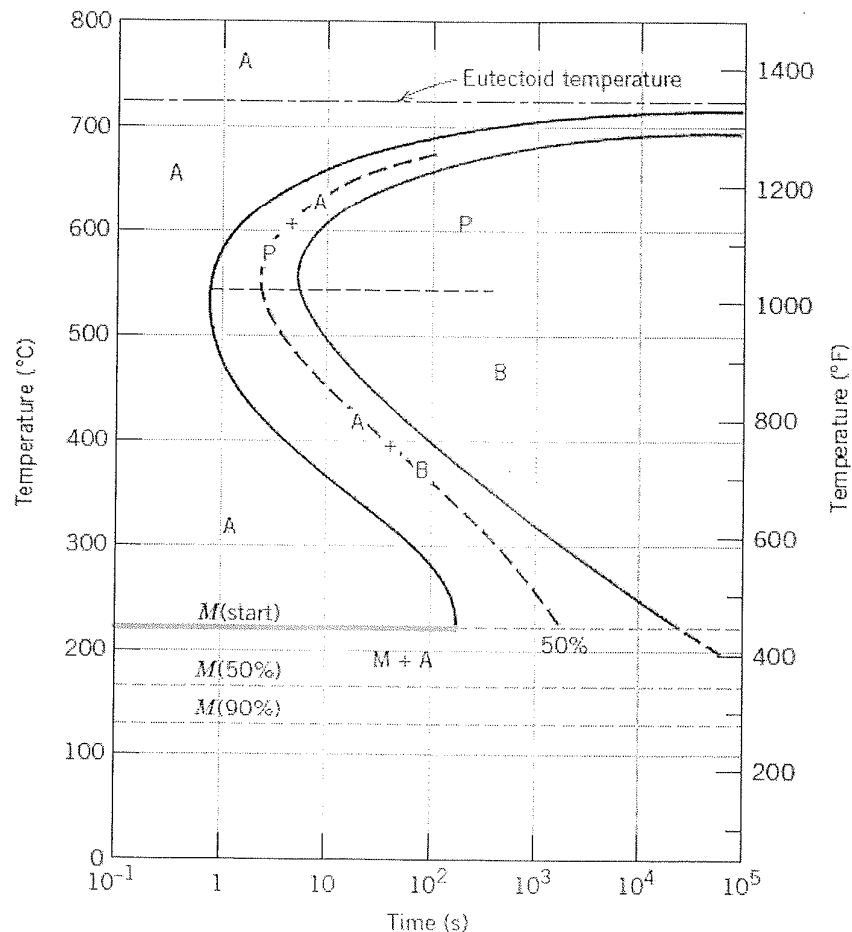

Figure Q3: Isothermal transformation diagram for an iron–carbon alloy of eutectoid composition.
- b. Using the isothermal transformation diagram for an iron–carbon alloy of eutectoid composition (Figure Q3), specify the nature of the final microstructure (in terms of microconstituents present and approximate percentages) of a small specimen that has been subjected to the time–temperature treatments given in section i to section iii. In each case, assume that the specimen begins at 760°C (1400°F) and that it has been held at this temperature long enough to have achieved a complete and homogeneous austenitic structure.
Note: you may draw the paths on Figure Q3 and attach it to the answer script.